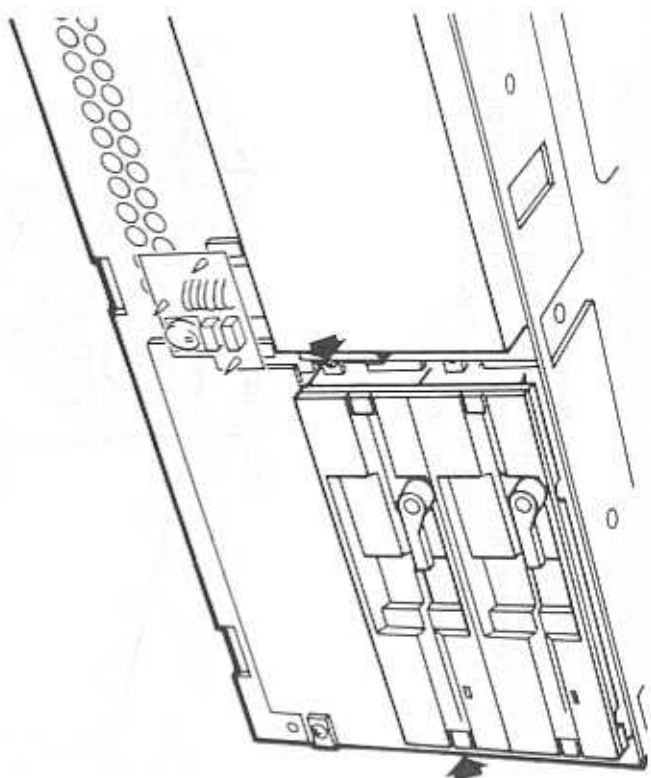

Figure 11-10. Securing the Drive
3. Using the stoppers and mounting screws removed in step 1, fasten the drive securely in place (Figure 11-10).